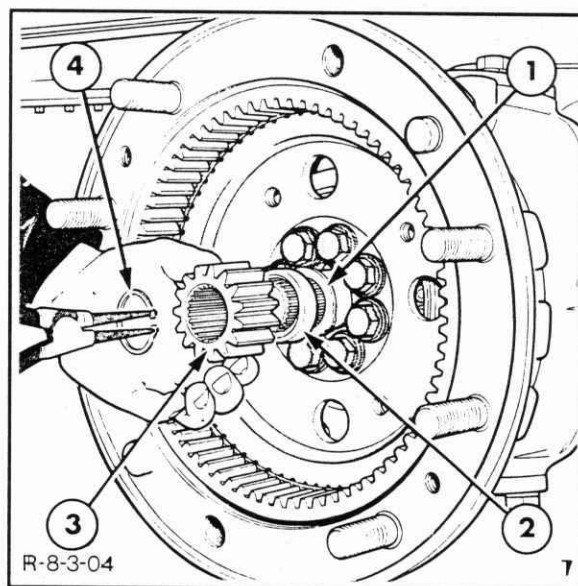

Figure 7-71
6. Remove the sun gear retaining snap ring and remove the sun gear from the axle shaft, Figure 7-71, followed by the spacer and thrust washer.